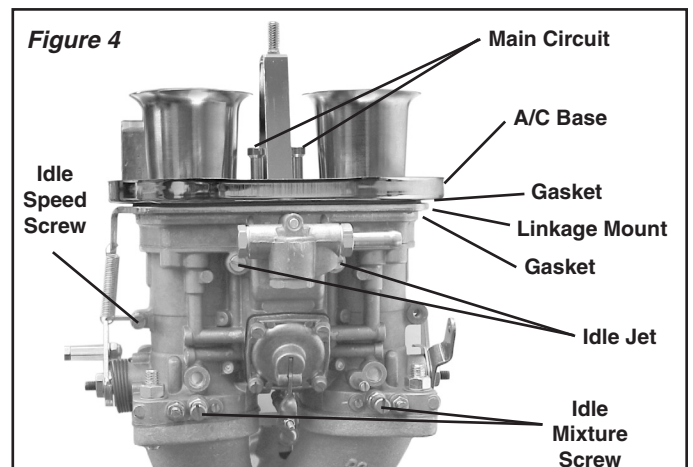

Figure 4
5. Install linkage mounts onto carburetors, followed by air filter bases using gaskets, long & short 6mm bolts and lock washers in kit (See Figure 4).